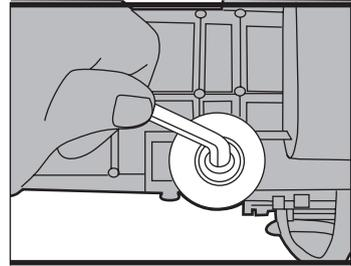

Fig 1
1. Fitting the rubber (anti-vibration) feet (See Fig 1):